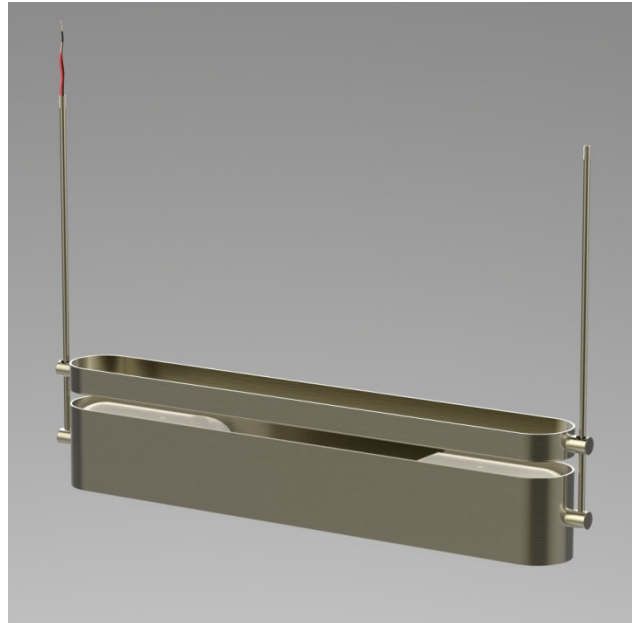

Figure 3
- Slide canopy gently down both stems. Use care to avoid scratching. (Figure 3)